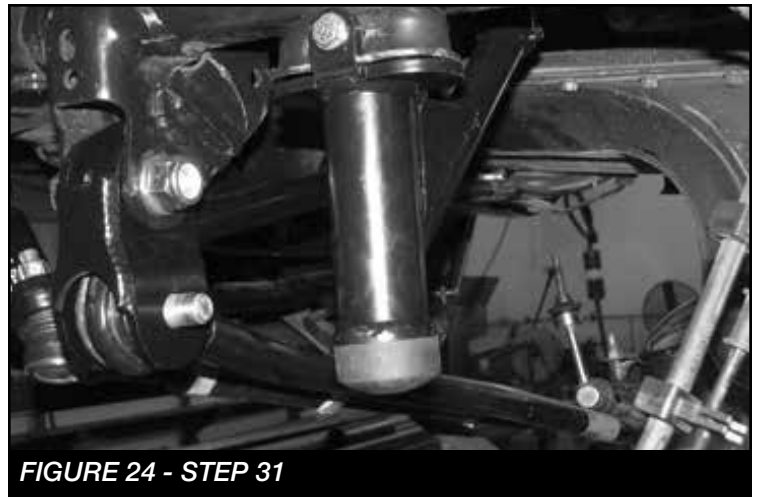

FIGURE 24 - STEP 31
31. Locate the FTS88 bump stop pad and thread it into the bottom of the Fabtech bump stop. **SEE FIGURE 24**